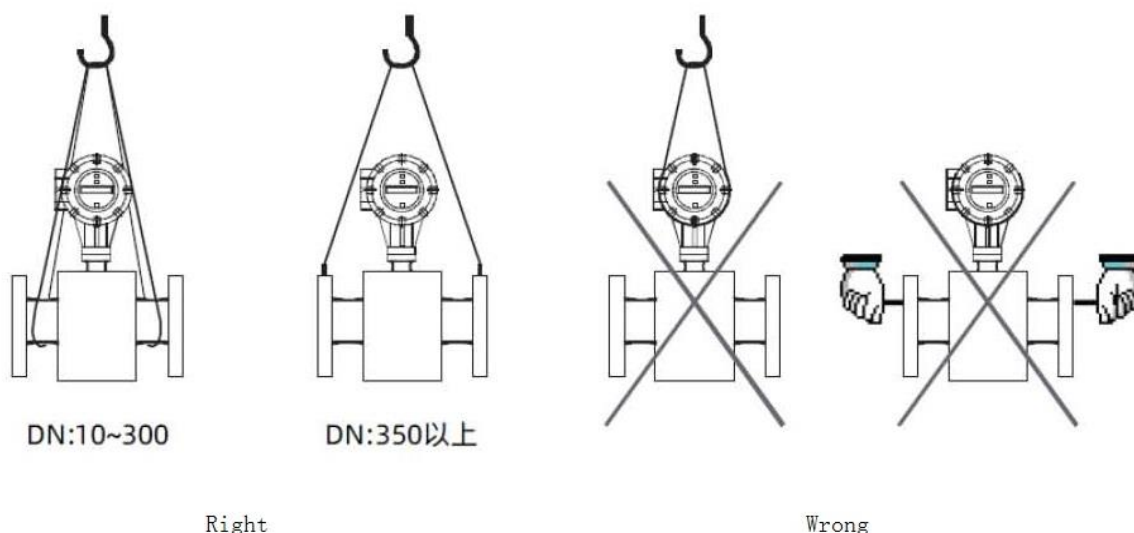

Figure 18
1. Be careful not to damage the instrument when unpacking. It is best not to unpack the instrument until it is transported to the installation site to avoid damage to the instrument. Use mounting rings when lifting the instrument, never lift the instrument with a rod or rope through the sensor measurement tube. The correct way to lift the instrument is shown in Figure 18.